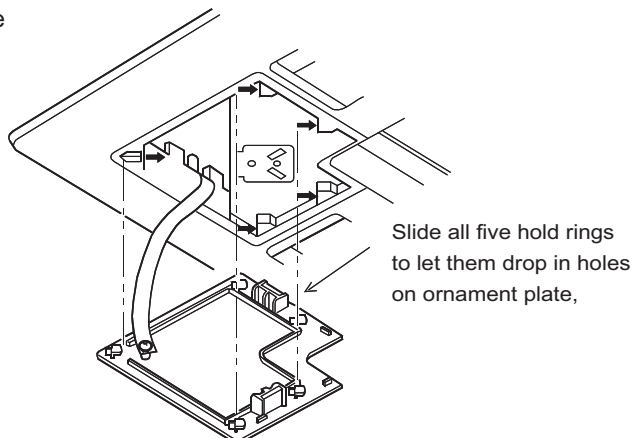

figure 7
4. Remove air inlet grille, see figure 7.
- b. Fix the corner cover on the ornament panel, see figure 7.